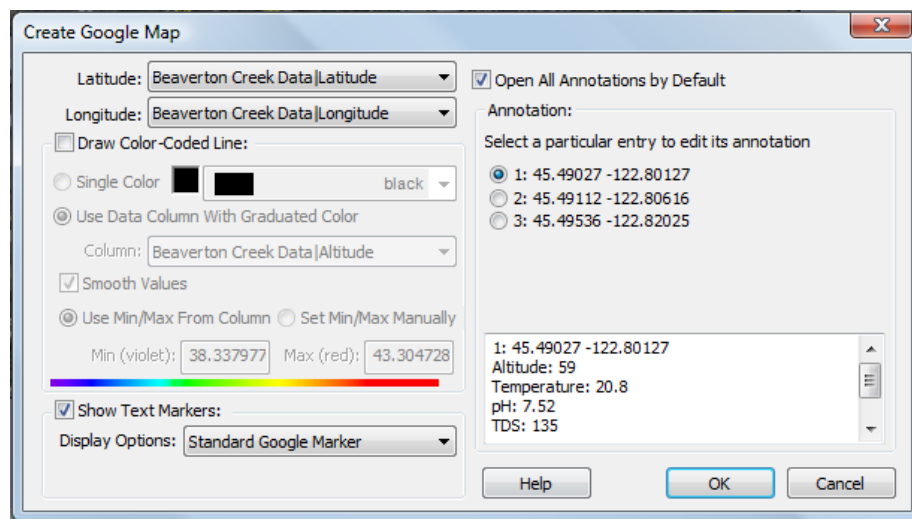

Figure 2: *Logger Pro* Create Google Map dialog
2. Choose Export As → Google Map... from the File menu. The dialog shown in Figure 2 will be displayed, allowing you to change markers and annotations that will appear on the map.